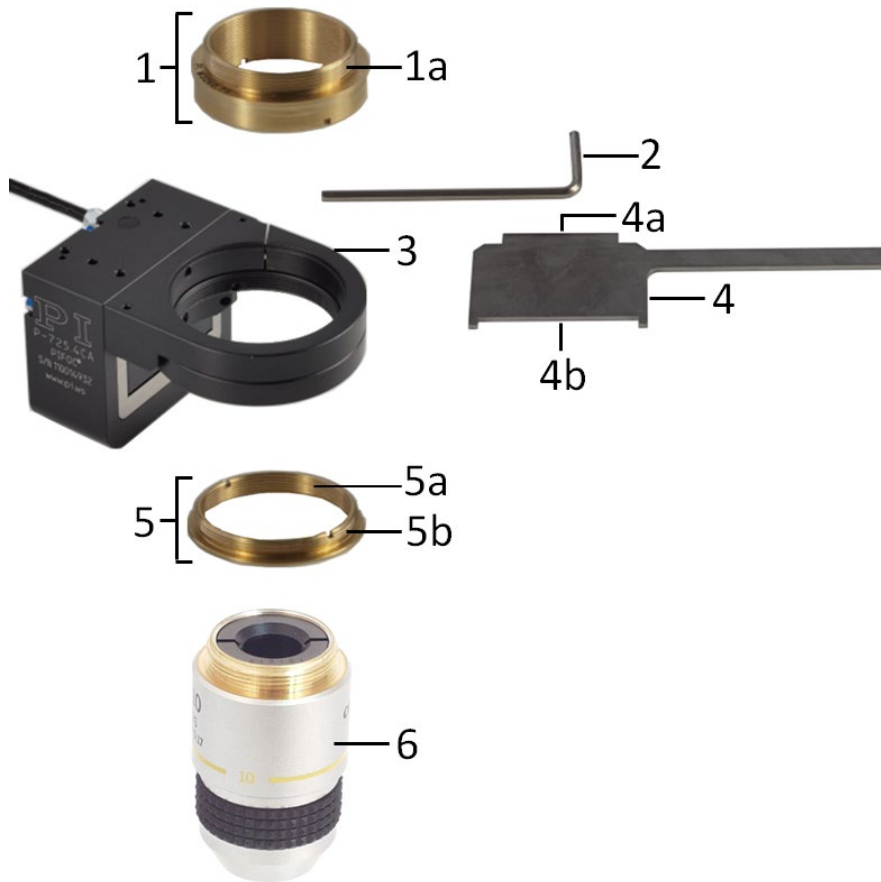

Fig. 6: P-721.xxA thread adapter with PIFOC positioner and microscope objective
- Hex key supplied (see Fig. 6, p. 20)
- Key tool supplied (see Fig. 6, p. 20)